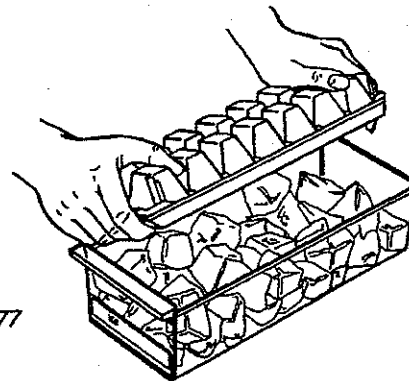

Figure 77
- b. Twist ends of tray in opposite directions until cubes pop out. See Figure 77.